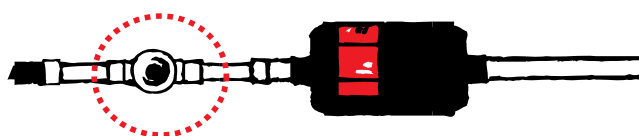

Figure 11
3. **Liquid spy (see Figure 11) on the system.(where present)**